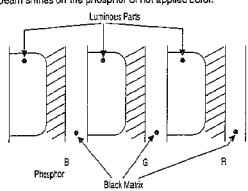

Fig. 2-1-2-6 Enhanced view of screen with microscope
- (10) To improve the mislanding mentioned above, it's acceptable to stick the permanent magnet to CPT funnel. (Fig. 2-1-2-7 and Fig. 2-1-2-8)